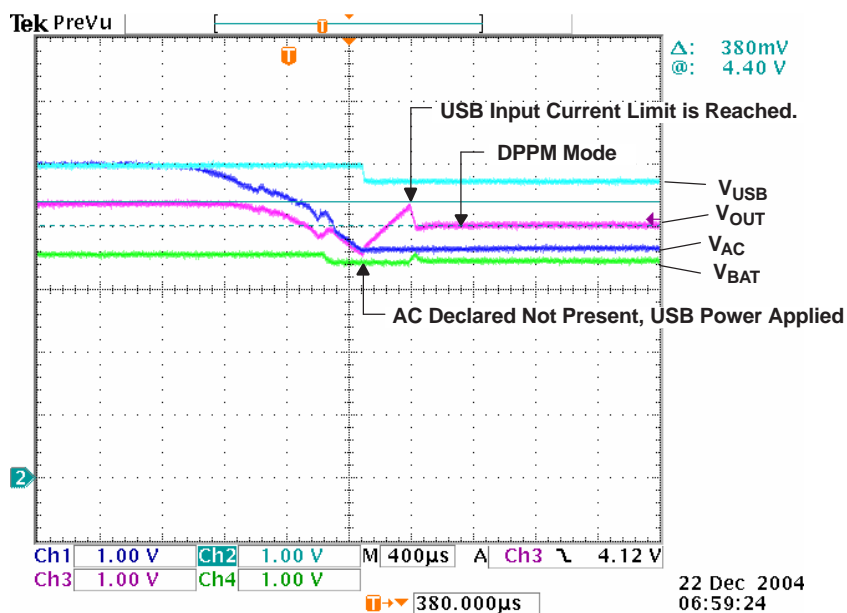

Figure 7. Remove AC – PWR XFER to USB
Figure 7 illustrates when AC is removed, power transfers to USB; PSEL = H (AC primary source); channel 1 (CH1) $V_{AC} = 5.4$ V; channel 2 (CH2) $V_{(USB)} = 5$ V; channel 3 (CH3) V_{OUT} ; output current, $I_{OUT} = 0.25$ A; channel 4 (CH4) $V_{BAT} = 3.5$ V; and $I_{(PGM-CHG)} = 1$ A. The power transfer from AC to USB only takes place after the primary source (AC) is considered bad (too low, $V_{AC} \leq V_{BAT} + 125$ mV) indicated by the \overline{ACPG} FET turning off (open drain not shown). Thus, the output drops down to the battery voltage before the USB source is connected (6th div). The output starts to recover when the USB FET starts to limit the input current (7th div) and the output drops to the $V_{(DPPM-REG)}$ threshold.